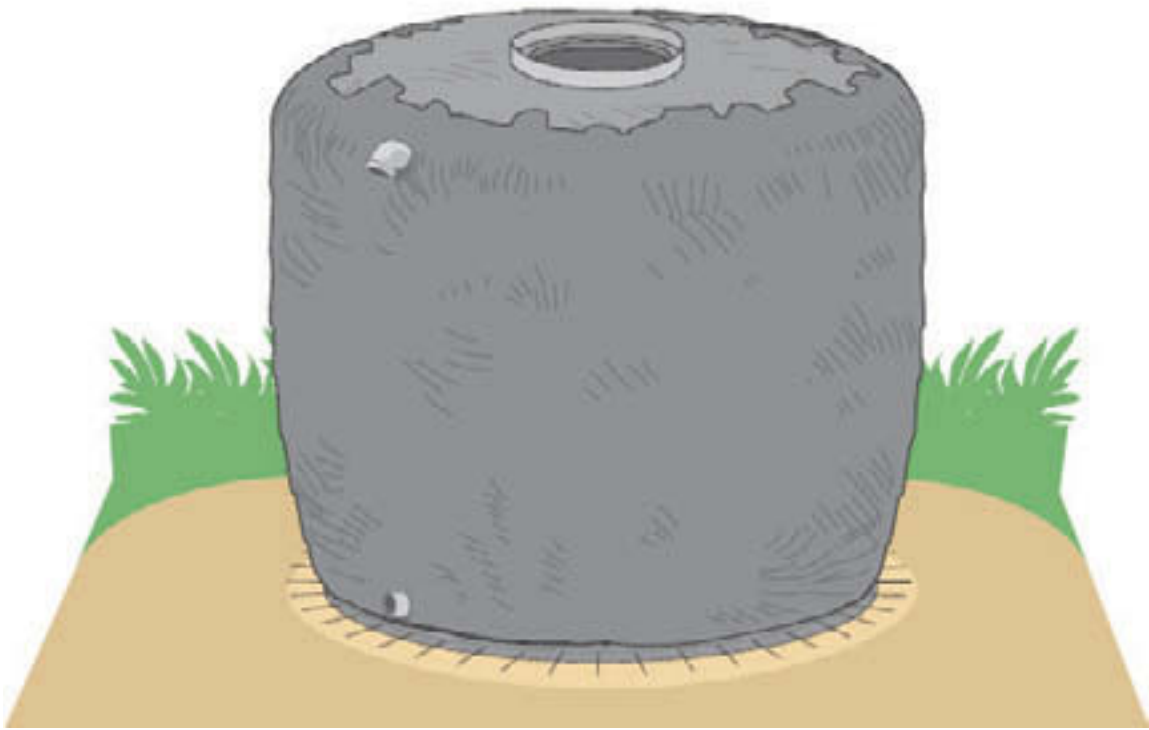

Fig. 31: Second coat of cement mortar
1. Mix another batch of cement mortar using a 1:3 cement:sand ratio. Plaster another thin layer (6–8mm) over the outside of the tank, filling in the unevenness of the first layer. This second layer should cover the walls and shoulder of the tank but not the entire roof (from the outer edge of the roof to $0.8 \times \text{radius}$ from the roof center; see figure 31). Let the mortar set.